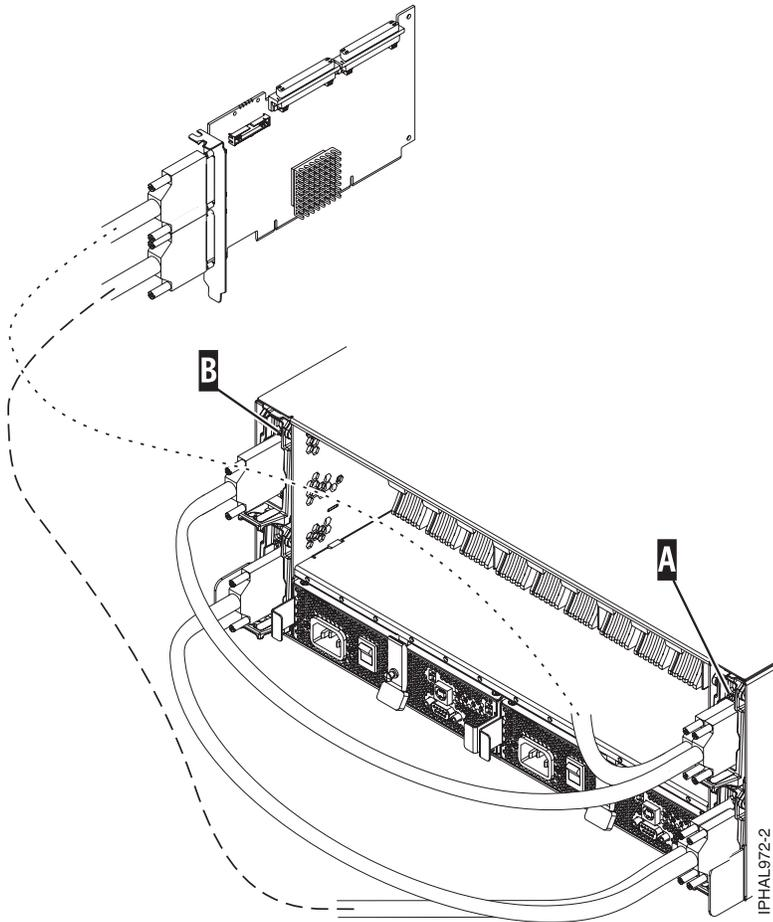

Figure 20. SCSI cable to a dual repeater card that is connected to a single repeater card
- If you are using a combination of single and dual repeater cards, connect a SCSI cable to the dual-initiator repeater card (A). Then, connect the dual repeater card (A) to the single repeater card (B) by using a different SCSI cable. For more information, see Figure 20 on page 52.